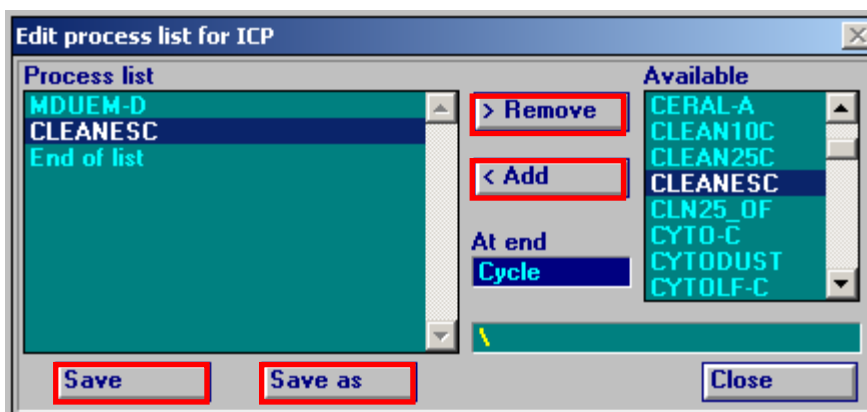

Fig.17: *Edit process list* window
5.4.3 Make a choice to **Select** and edit one of your own lists, or to make a **New** one. In both cases the *Edit process list* window (Fig.17) will show up, with all available recipes listed on the right-hand side.